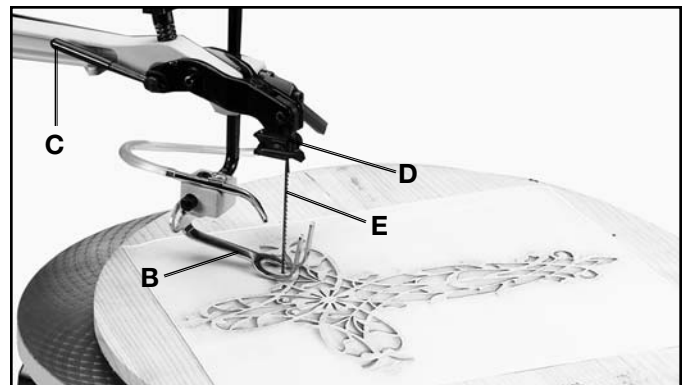

Fig. 39
Reassemble blade (E) Fig. 39, back into the upper blade holder and tighten blade by moving lever (D) forward. Move tension lever (C) to the rear and lower spring holddown (B). You are ready to make the next inside cut.